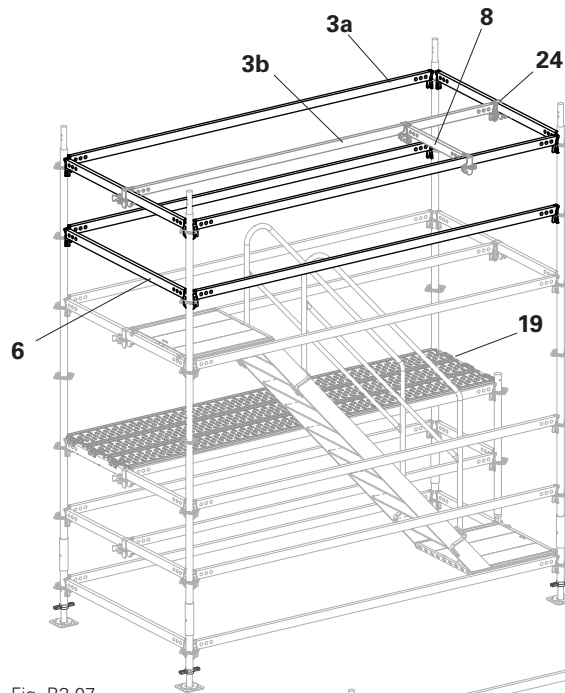

Fig. B3.07
5. Tighten all wedges. (Fig. B3.07)